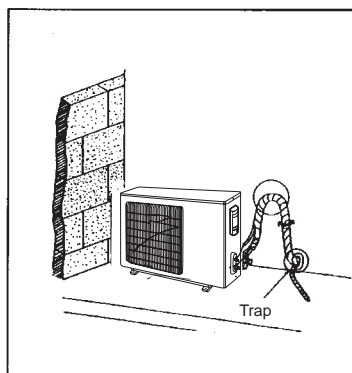

Fig.19
- (1). Taping should be done from lower to the upper part.
- (2). All pipes are bound and taped together and also should be trapped to prevent water from returning to the room (See Fig.19)
- (3). Restraint all pipes to the wall with saddles.